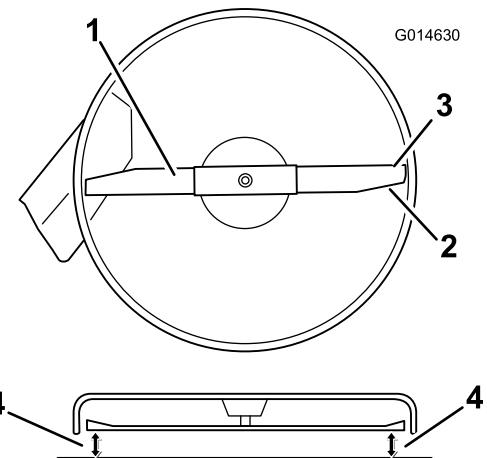
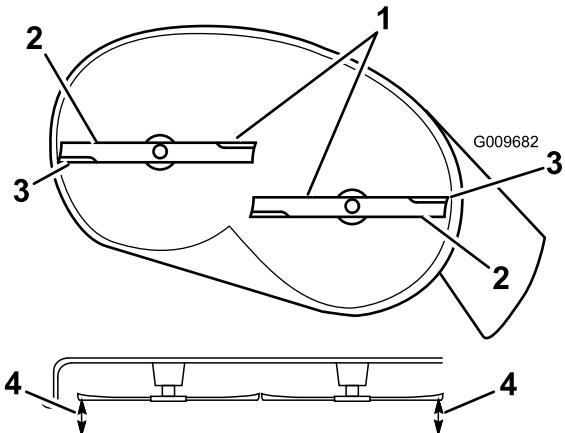

Figure 53
Figure 54
4. Carefully rotate the blade(s) so that they are all side to side (Figure 53 and Figure 54).
5. Measure between the outside cutting edges and the flat surface (Figure 53 and Figure 54).